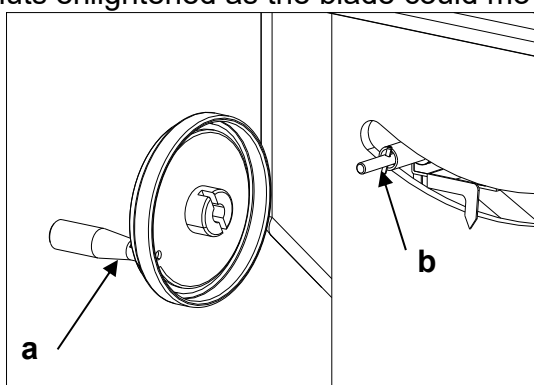

Fig. 3
1. Place the wheels in position over the raising and tilting screws being sure to engage the slots, a (Fig.3), in back of each wheel with the roll pins, b(Fig.3), as shown at right.